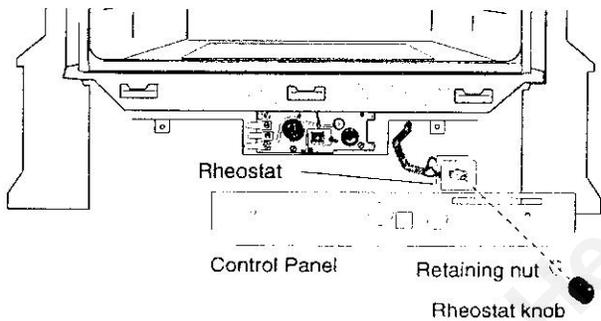

Figure 3-10. Attach the Rheostat to the Control Panel.
- Align the switch box with the hole in the right side of the Panel, aligning the locator pin with the smaller hole in the panel. Fig. 3-10.